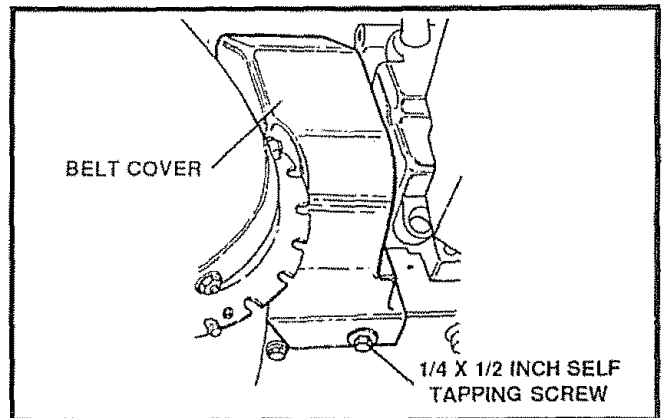

FIG. 26
- Remove the belt cover (See Fig. 26).
- Remove the belt cover (See Fig. 26)